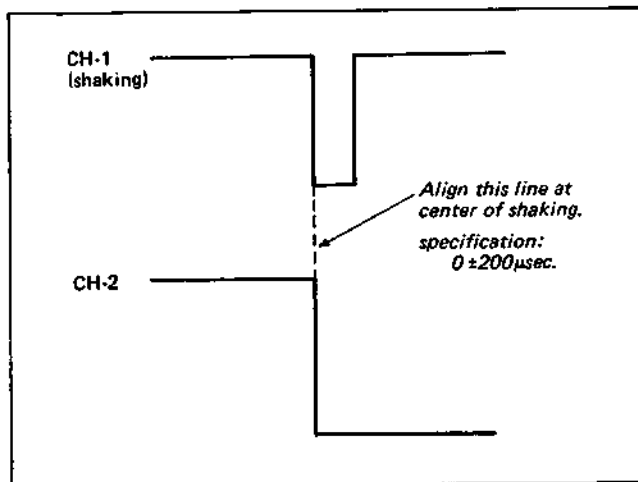

Fig. 4-3-9. Tracking control center adjustment
- (4) Adjust RV4 so that the phases of the falling sections of the waveforms become the same. (See Fig. 4-3-9.)